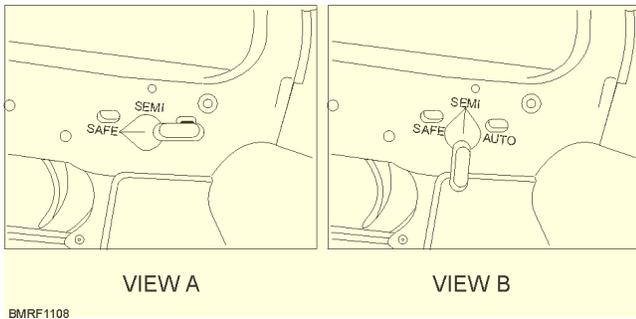
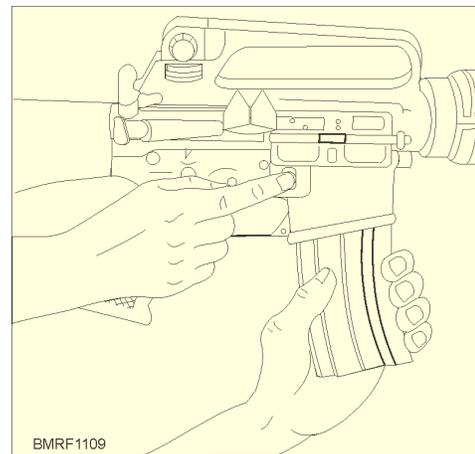

Figure 11-8.—Selector lever pointing to SAFE.
Figure 11-9.—Removing the magazine.
1. Point the selector lever toward SAFE (fig. 11-8, view A). If the weapon is not cocked, the selector lever cannot be pointed toward SAFE. If that is the case, do
2. Remove the magazine (fig. 11-9). Grasp the magazine with the left hand (fingers curled around the front of the magazine, thumb placed on the magazine catch button). Use your right hand and apply pressure on the magazine catch button with the thumb and pull the magazine straight out of the weapon.
With the hammer cocked, place the selector lever on SAFE. (Refer to figure 11-8, view A.) Notice that you can't place the selector lever on SAFE unless the rifle is cocked. You may insert the magazine with the bolt and bolt carrier open or closed; however, you should learn to load with the bolt open. Loading with the bolt open reduces the possibility of first round stoppage and saves the time needed to pull the charging handle to the rear.
The rifle fires semiautomatic or burst (automatic for the M16A1) when you move the selector lever to the desired position. (Refer to figure 11-8.) With the selector lever in the semiautomatic position, the rifle fires one round each time you pull the trigger. With the selector lever in the burst position, the M16A2 fires in short bursts of three rounds. (**NOTE:** The M16A1 rifle fires fully automatically and will continue to fire until the magazine is empty or you release the trigger.) When the rifle is fired in either SEMI or BURST or AUTOMATIC, the bolt locks in the open position when the last round from the magazine has been fired.
As you read this section, refer back to figures 11-8, 11-9, 11-10, and 11-11. To unload the rifle and make it safe, place the selector lever on the SAFE position (fig. 11-8); and remove the magazine by pressing the magazine release button (fig. 11-9). Pull the charging handle to the rear (fig. 11-10), ejecting any round from the chamber. Inspect the chamber and receiver to ensure that it is clear. Releasing the charging handle will allow the bolt to close. To keep the bolt open, depress the lower portion of the bolt catch before returning the charging handle forward (fig. 11-11). The rifle is clear only when the following conditions exist: